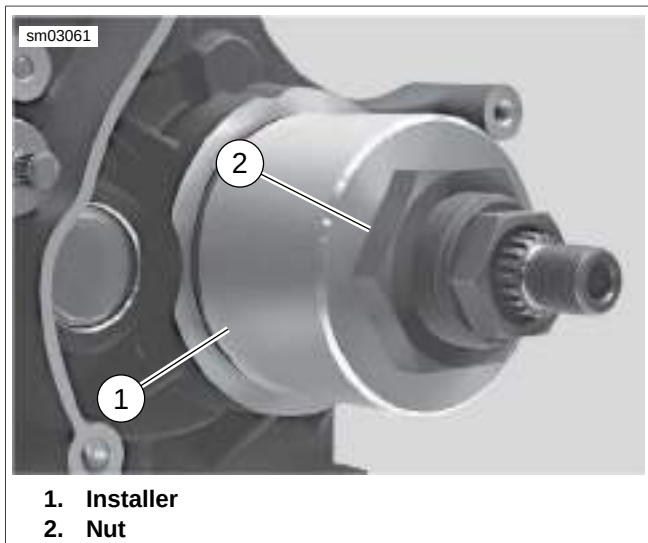
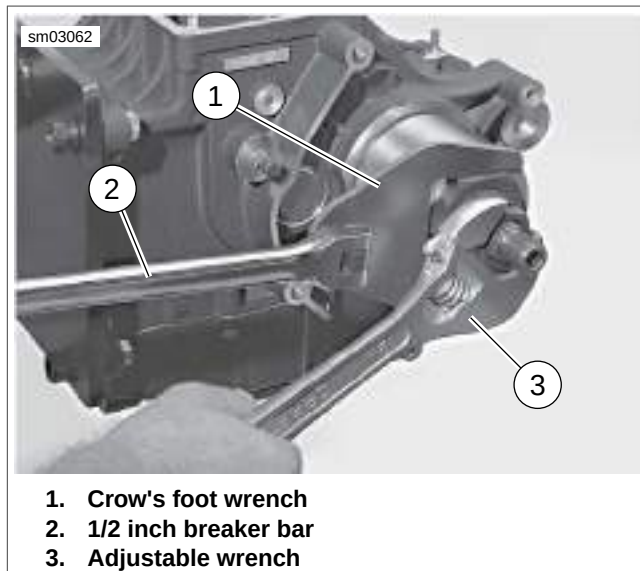

Figure 6-48. Installer and Nut
Figure 6-49. Press Seal Into Crankcase
5. See Figure 6-48. Slide INSTALLER (Part No. HD-47856-1) (1) over adapter until cupped end of installer is flat against seal.
6. Thread NUT (Part No. HD-47856-6) (2) onto end of adapter, until it tightens against installer.
7. See Figure 6-49. Place CROW'S FOOT WRENCH (Part No. HD-47856-7) (1) with 1/2 inch drive breaker bar (2) on large nut. Place an adjustable wrench (3) on flats of hex head cast into end of adapter.